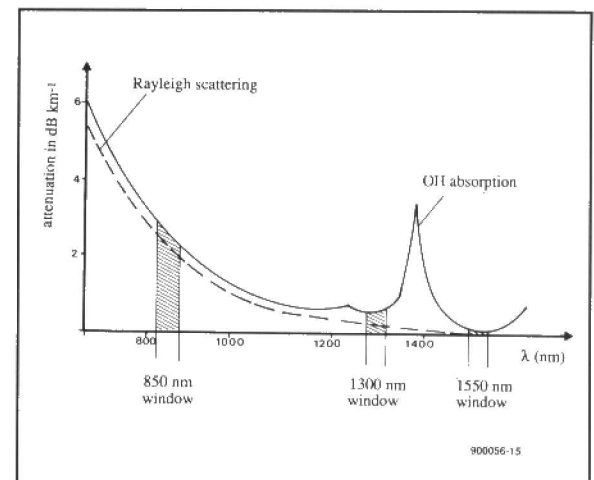

Fig. 7. Relationship between attenuation presented by an optical-fibre cable and the wavelength of the input light.
The absorption component is specific to the glass fibres and can be kept to a minimum during manufacture, when, for example, oxygen-hydrogen (OH) ions may get trapped in the material. Such impurities absorb light at a number of wavelengths as shown in Fig. 7. Note that the attenuation of wavelengths around 1300 nm and 1150 nm is very small.
Some spurious particles will always be present in the glass; they come about during the melting process. The dispersion caused by these particles, which are small compared to the wavelength of the light used, is called Rayleigh scattering, which reduces with increasing wavelength—Fig. 7. Scattering is an intrinsic property of the glass; it cannot be eliminated. It is partly caused by the glass fibres and partly by properties of the